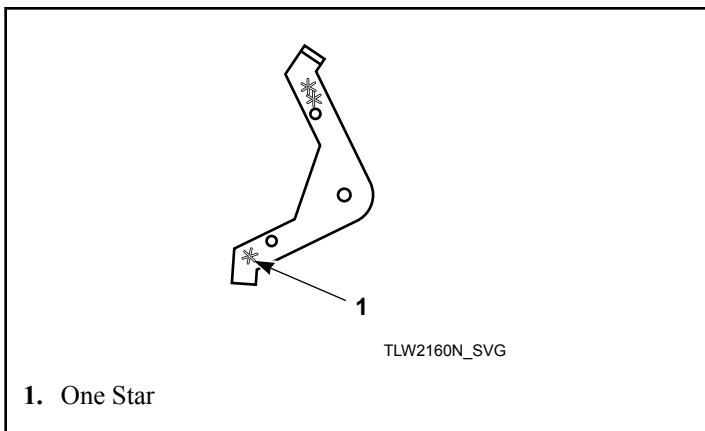

Figure 13
- Install extension lever with arm that has one star facing down. Refer to *Figure 13*.